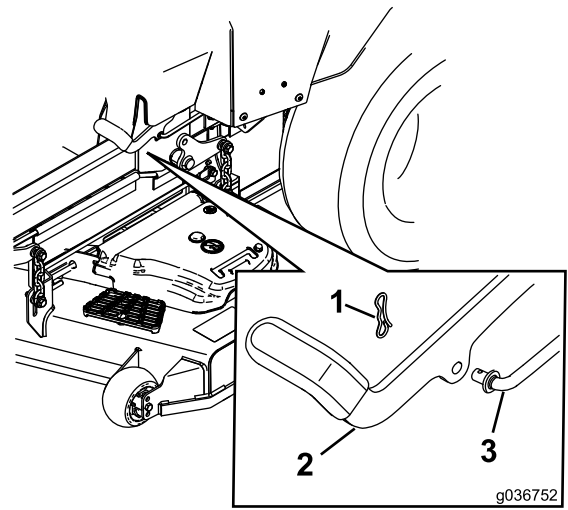

Figure 50
6. If an adjustment is necessary, disengage the parking brake. Remove the cotter pin from the brake linkage shaft (Figure 50).